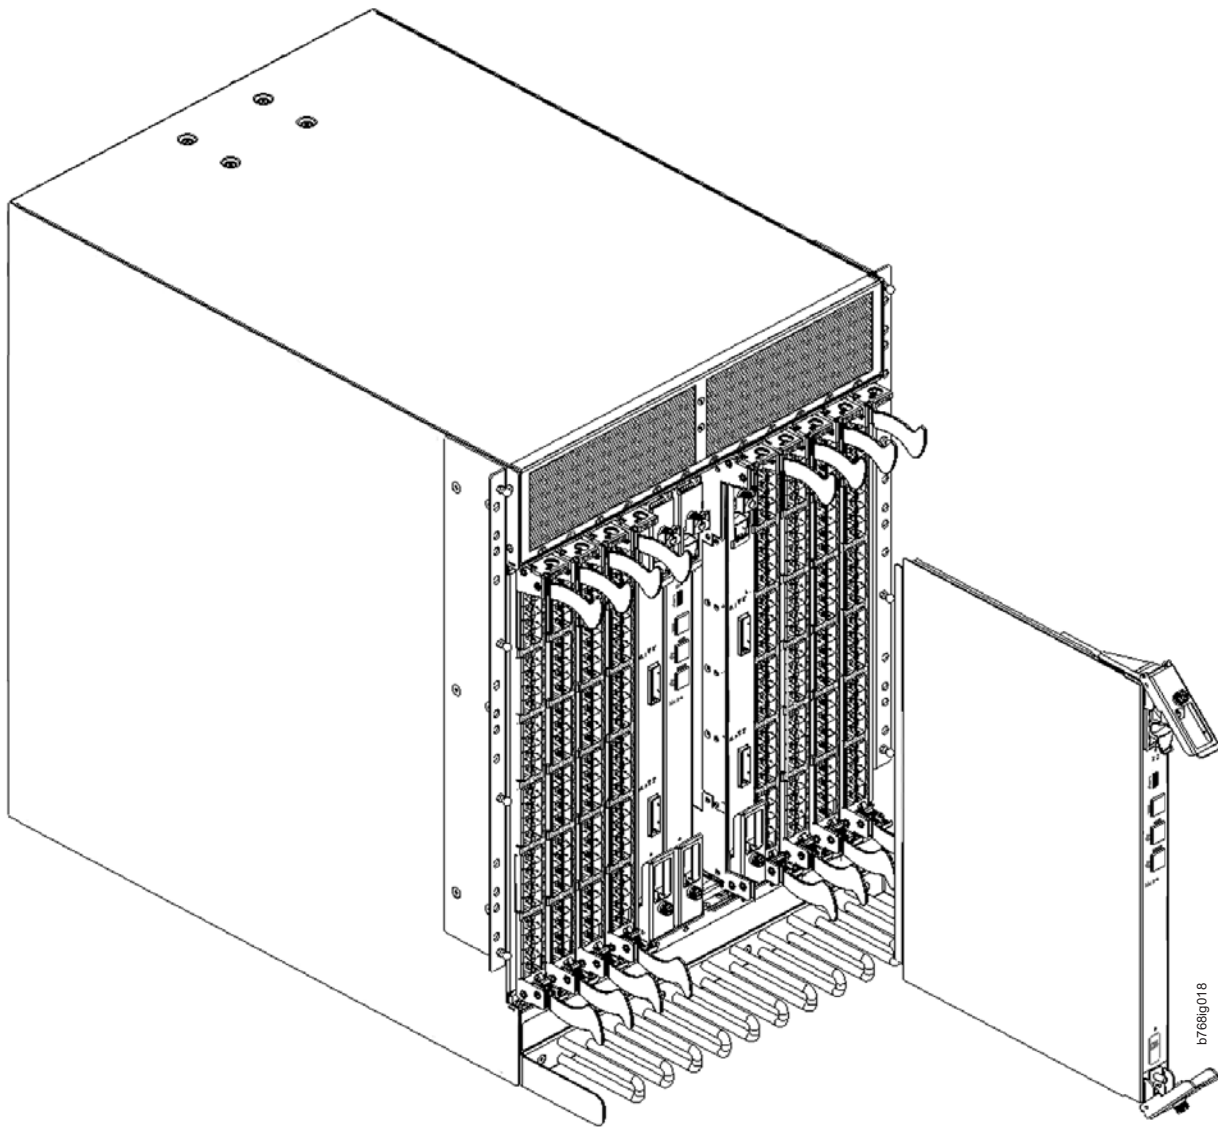

Figure 31. Removing the control processor (CP8) blade
2. Power off the blade by sliding the slider switch in the top ejector down to the off position (see Figure 31 on page 74).
5. Open both ejectors simultaneously to approximately 45 degrees and pull the CP blade out of the chassis (see Figure 31).